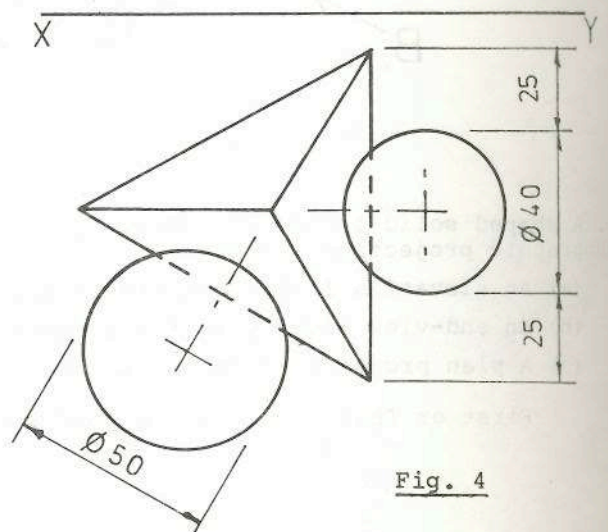

Fig. 4
4. Fig. 4 shows the plan of an equilateral triangular pyramid whose altitude is 60 mm and two spheres which are in contact with the sloping faces of the pyramid. All the solids rest on the horizontal plane.